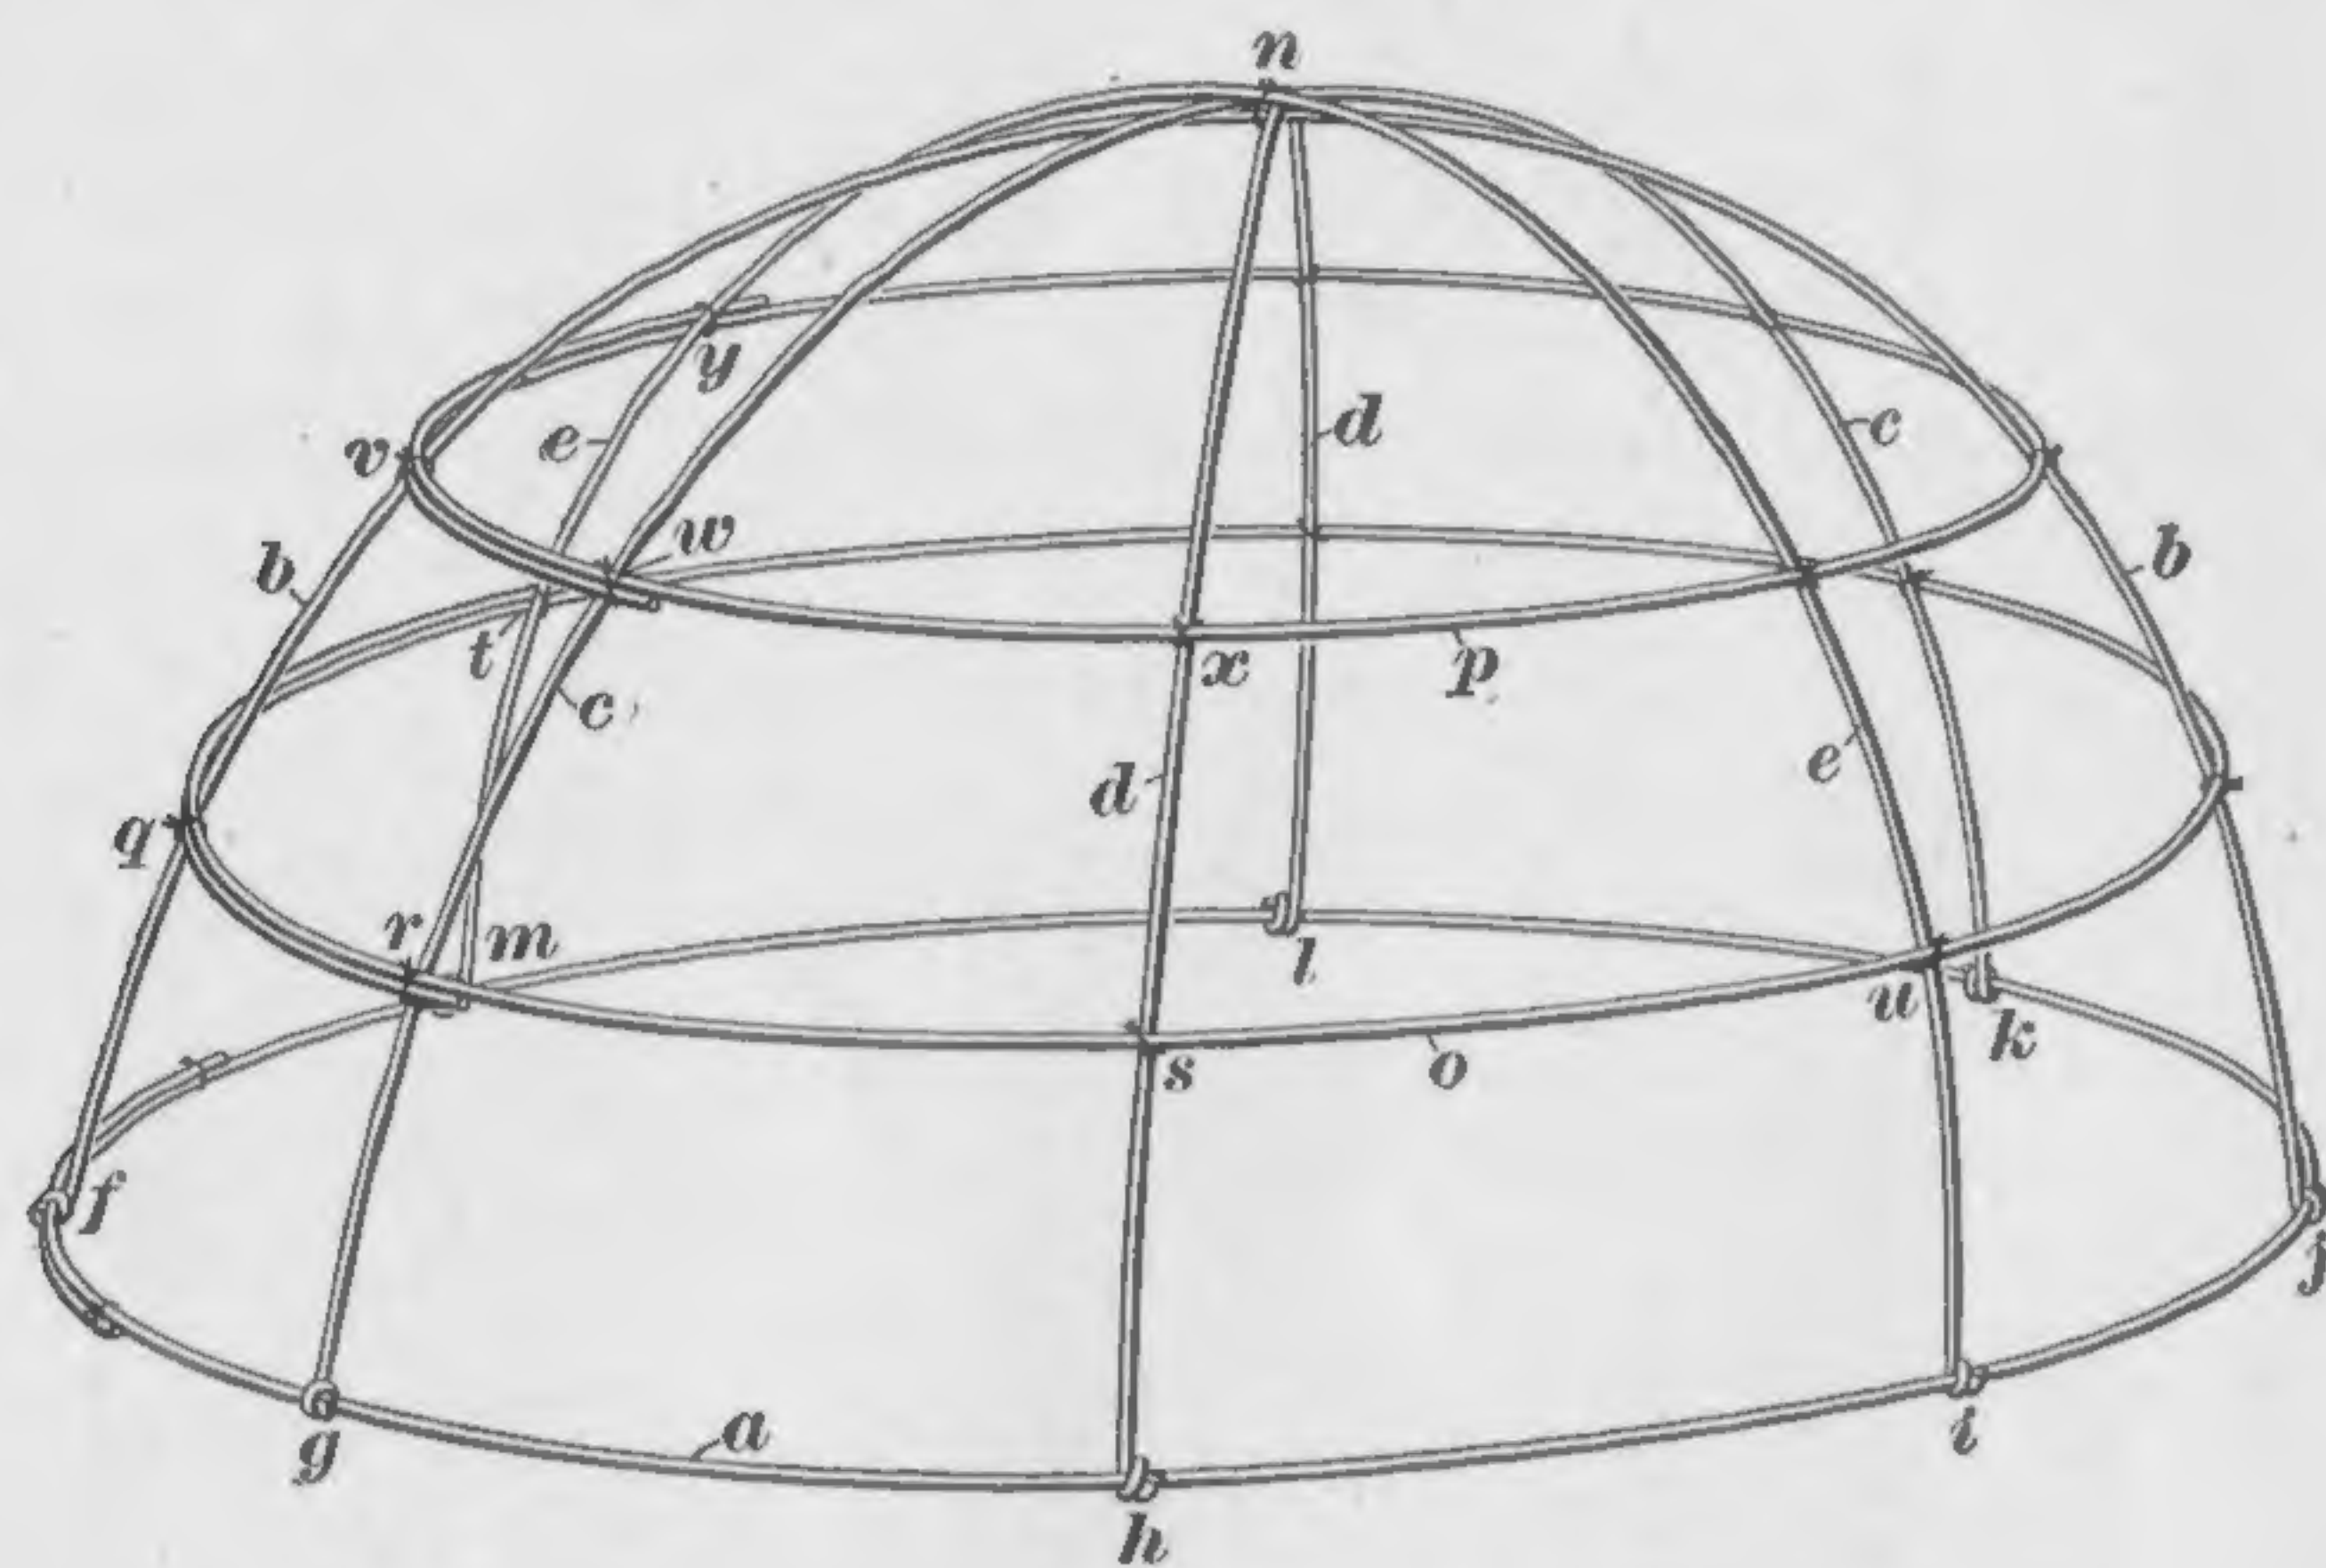
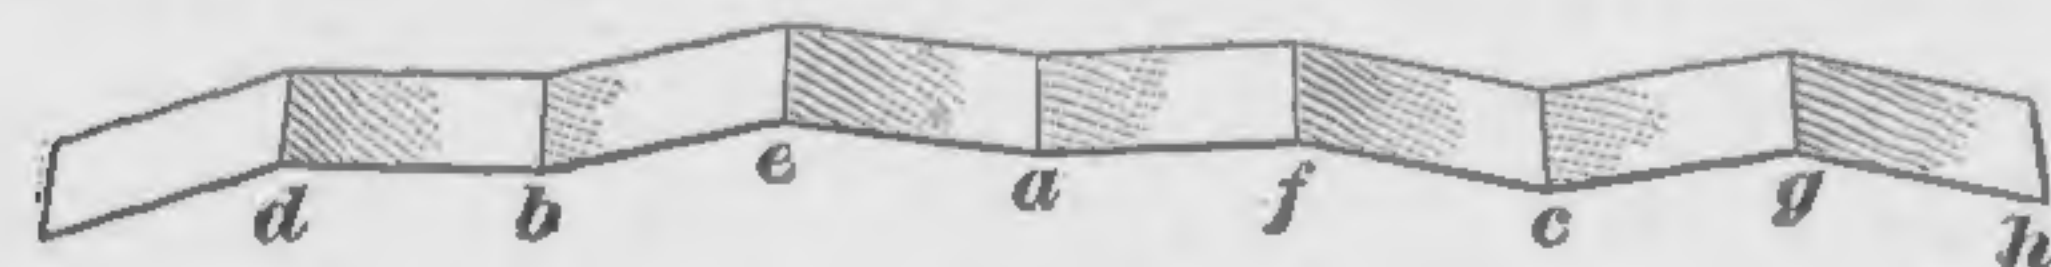
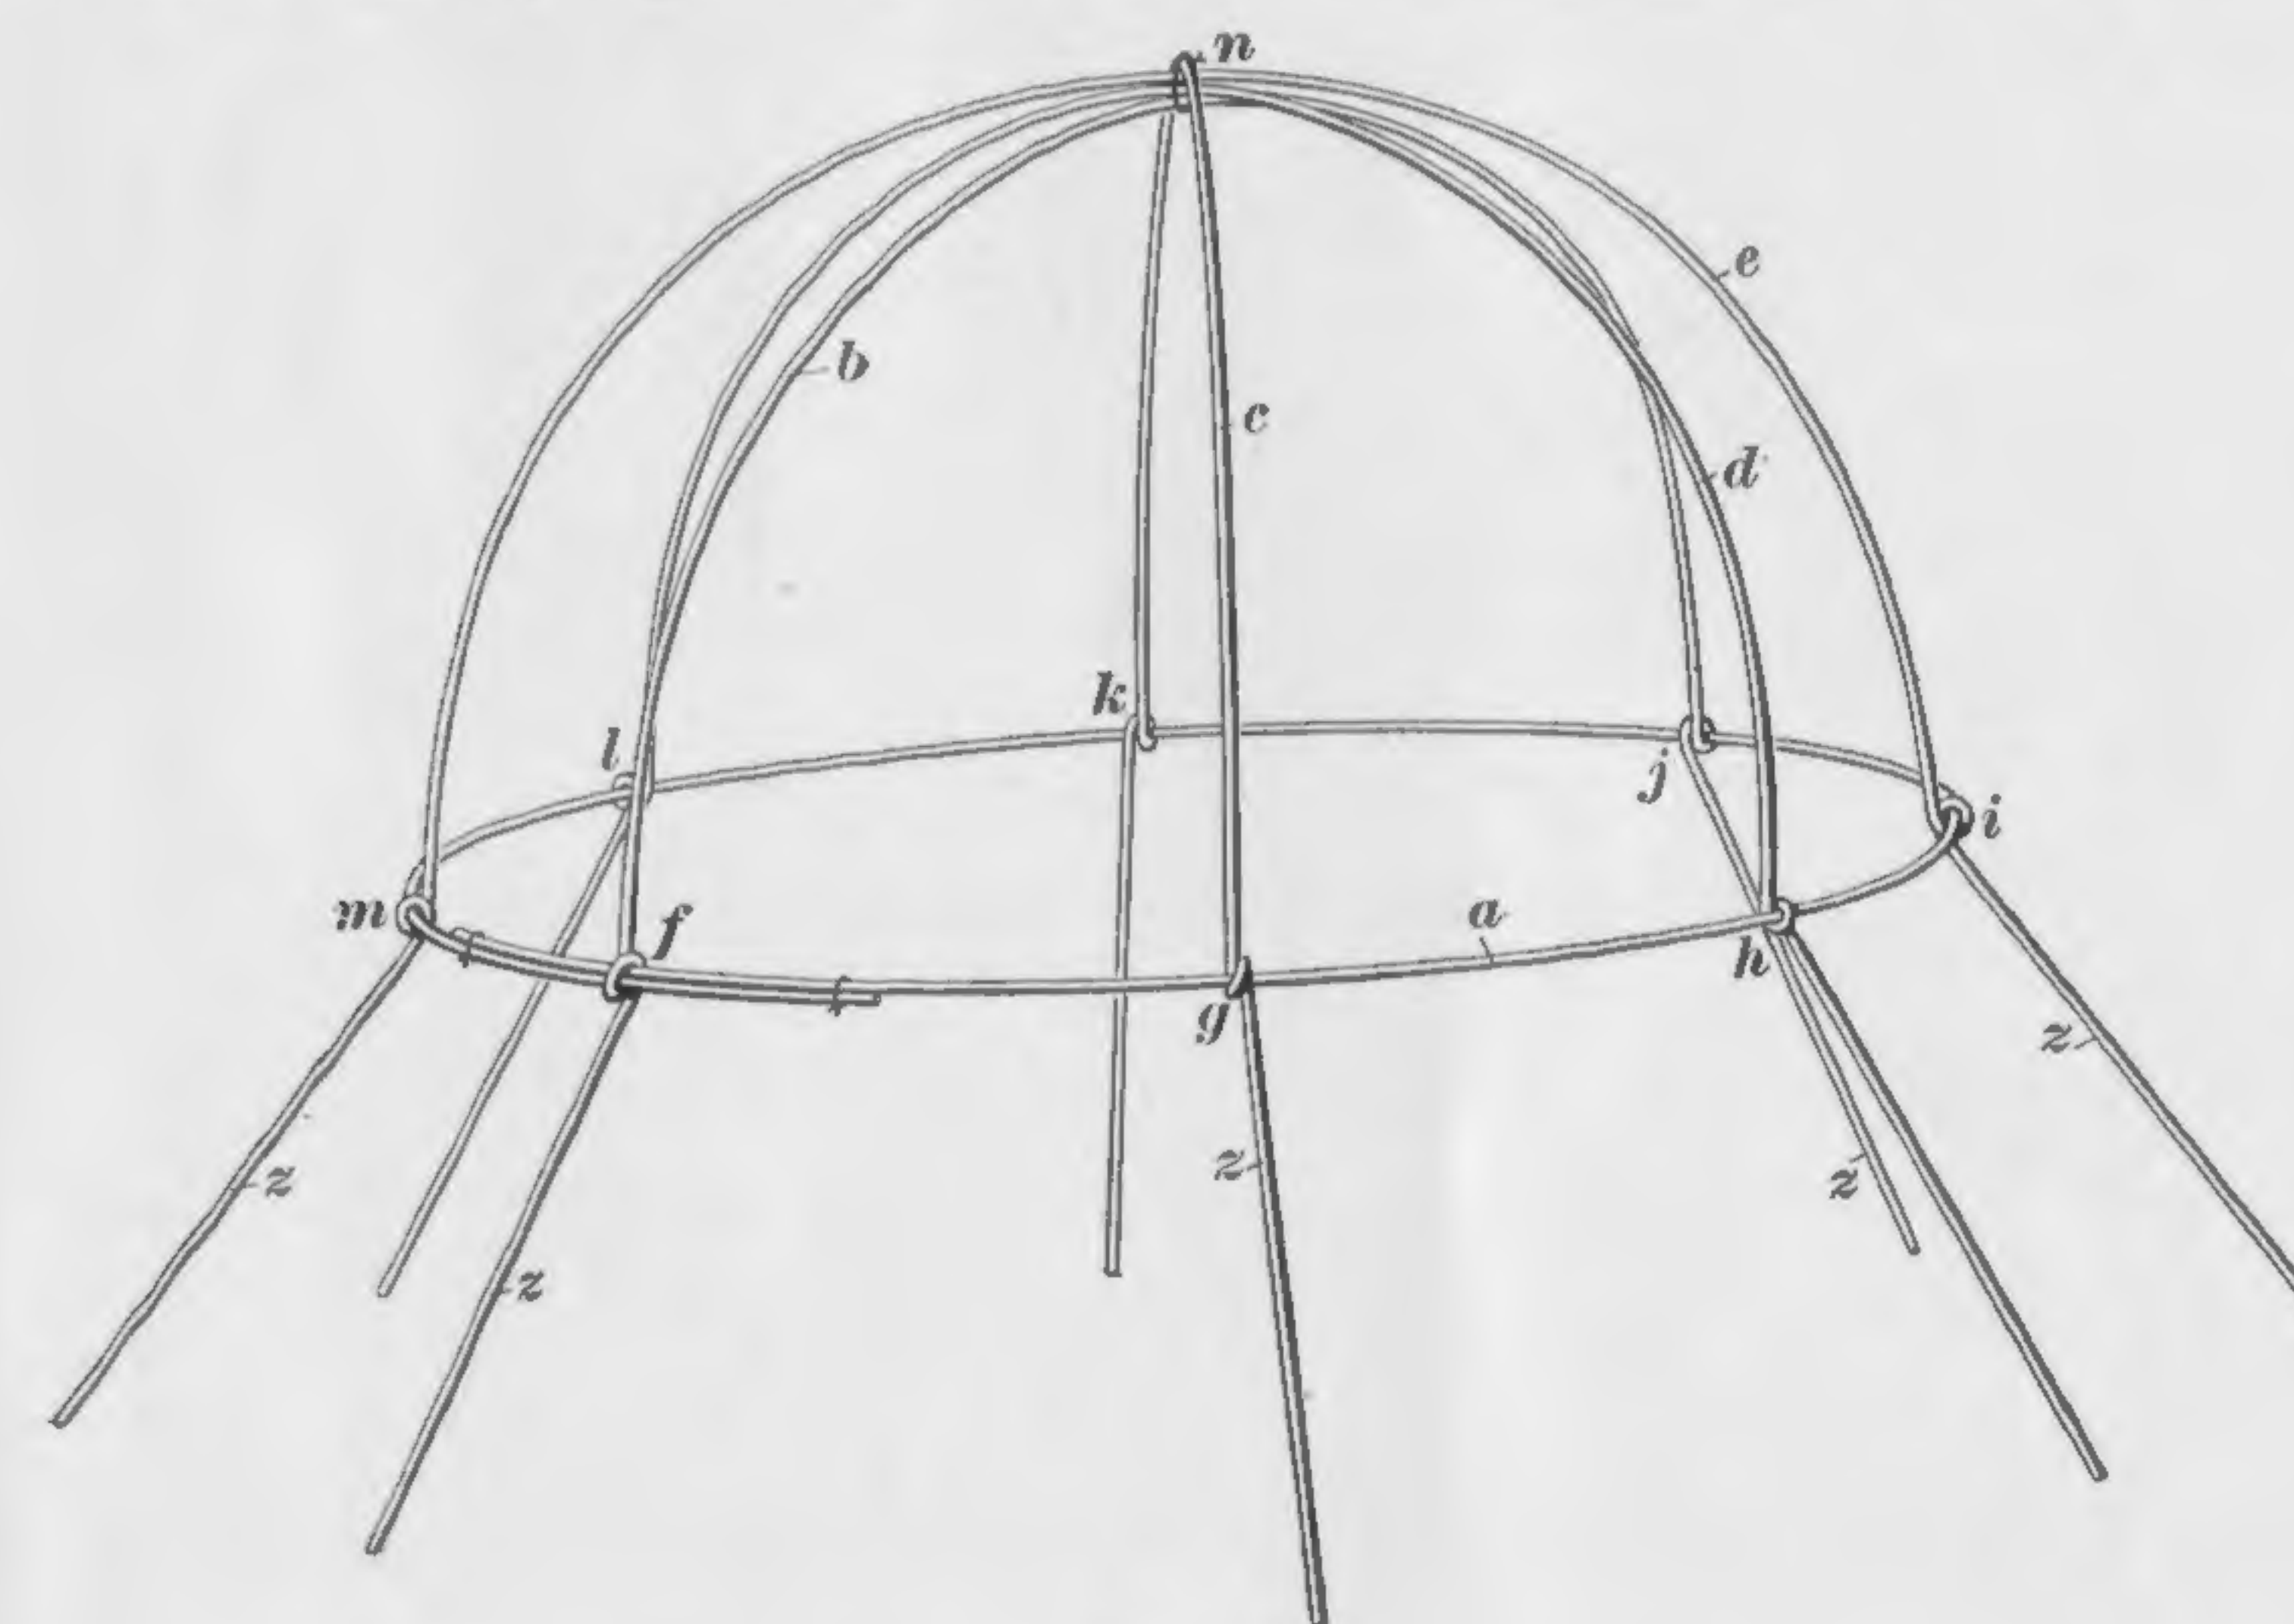
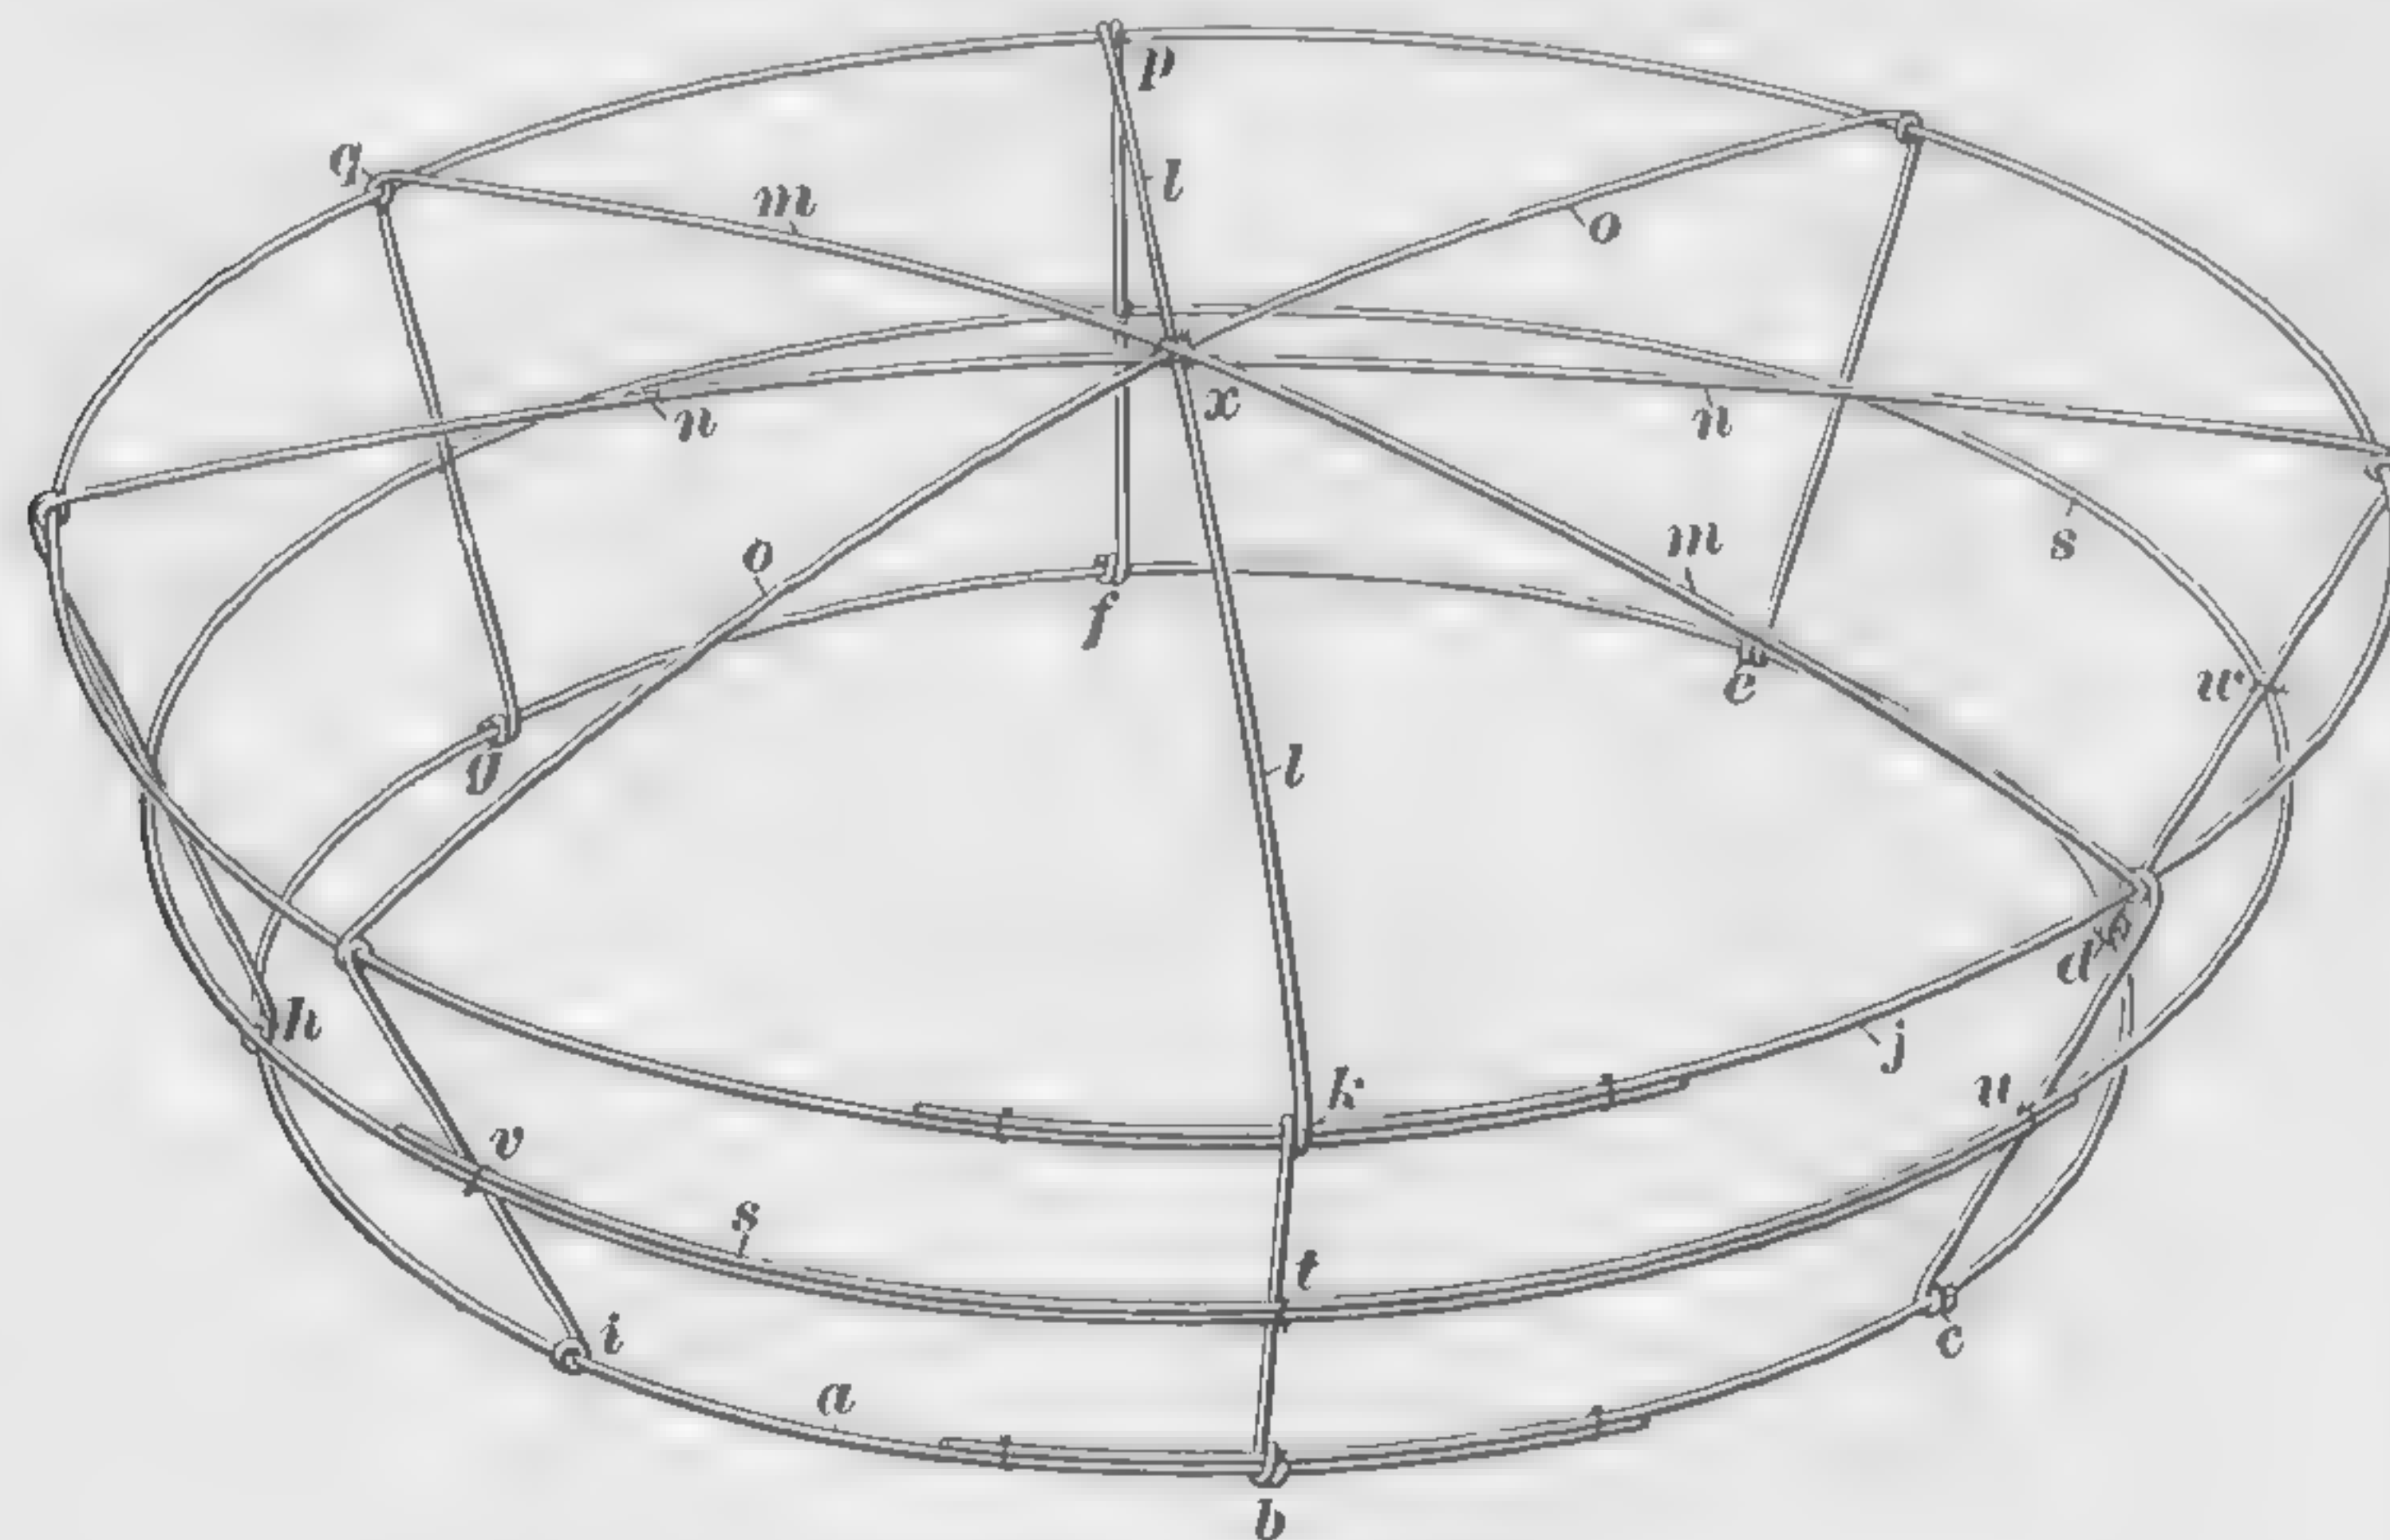

FIG. 10
FIG. 11
FIG. 15
FIG. 19
shown completed in Fig. 10. Starting with the head-size wire *a*, made as already described, the next step is to bend and attach the four support wires *b*, *c*, *d*, and *e* that outline the dome. Before these wires can be attached, however, it is necessary to locate the points *f*, *g*,
17. To mark off these equal distances, take a narrow strip of paper, and holding it against the head-size wire, run it around and tear it off so that its length is exactly equal to the head-size. Now fold this strip in the middle, then fold it a second time, and finally a third time. Straighten it out, and it will appear as in Fig. 11, with seven creases that divide it into eight equal parts. The first fold makes the crease *a*, and divides the strip into two equal parts; the second fold gives the creases *b* and *c* and divides it into quarters;
18. The starting point from which to lay off the equal divisions on the head-size wire is the point *f*, Fig. 10, which is the middle of the
overlapped ends. This point is the middle of the back of the hat. Using the gauge *gh*, Fig. 11, lay one end of it at the point *f*, Fig. 10, and stretch it along the wire *a*, and even with its other end make a pencil mark, which will be the point *g*; from *g*, using the same gauge, mark off another division, thus locating the point *h*; and continue in the same way around the wire *a*. The point *j*, directly opposite *f*, will then be the front of the hat.
19. The next thing to do is to attach the wires *b*, *c*, *d*, and *e*, Fig. 10. These wires are all of the same length and have the same curvature. The height of the crown depends on the length of the wire used; the longer the wire, the higher will be the crown. But the height of crown may be varied according to the wearer. The
support wire is 12 in., measured from one side of the crown to the other over the top *n*, Fig. 10. If each wire is given an extra 2 in. for
of the hat. The dome will then appear as shown in the illustration, with the front-to-back and the side-to-side wires in place. Now take the remaining two support wires and fasten them in the same way from *g* to *k*, Fig. 10, and from *i* to *m*. When this has been done, the dome will appear as shown in Fig. 15. A piece of tie wire should be put around the crossed wires at the top *n* of the dome and twisted tight with the pliers, so as to hold the support wires firmly. The point *n* must be exactly at the middle of each of the support wires.
21. To brace the frame and make it sufficiently rigid, the wires *o* and *p*, Fig. 10, must be put on and tied fast. The wire *o* is put around the dome exactly $1\frac{1}{2}$ in. above the head-size wire *a*. Cut a strip of
22. When the wires *o* and *p*, Fig. 10, have been tied to the support wires, the frame of the dome crown is completed; however, the ends *z*, Fig. 15, of the support wires still project, as shown. Each of these ends should now be bent around until it stands up beside its corresponding support wire, after which it should be cut off with the pliers
close to the head-size wire *a*. When this has been done, the frame will appear as shown in Fig. 10. Now it is necessary to go over the entire frame and tighten all the twists and tie wires. First press all the twists *f*, *g*, *h*, etc., between the jaws of the pliers in the manner indicated in Fig. 16. This not only turns the cut ends in but also flattens the loops against the head-size wire and prevents the ends of the support wires from moving sidewise. Finally, with the points of the jaws, grip each tie wire and twist it tight. The frame will then be bound together firmly and will be as rigid as it can be made. Absolute accuracy in spacing the wires is not necessary, because the
frame will be completely covered and hidden when the hat is finished. On the other hand, the beginner should not allow herself to fall into the habit of doing slipshod, inaccurate work. Less than 5 yd. of brace wire is needed for making the frame shown in Fig. 10.
side. The sides of the crown are straight; therefore, the top brace wire *b* is of the same size and shape as the head-size wire *a*. Midway between them is a brace wire *c*, of the same size and shape. Hence, using the head-size wire *a* as a pattern, cut two more wires of the same length, bind them with tie wires and bend them to the same shape as the head-size wire *a*, that is, to an oval $8\frac{1}{2}$ in. long by 7 in. wide. Four support wires are used, spaced equally around the frame; therefore, by means of a strip of paper folded into eighths and used as a gauge, as explained in connection with Fig. 11, the top brace wire *b*, Fig. 17, and the head-size wire *a* are marked off into eight equal divisions, beginning at the points *g* and *h*, which are the middle points of the overlapping ends and are at the back of the crown.
28. A completed bell crown is shown in Fig. 19, and the method of making it is very much like that used in making the box crown just described. Measure off the correct head-size wire a and tie the overlapping ends as shown. Make a paper gauge as explained in connection with Fig. 11, and mark off the points from b to i , Fig. 19, around the head-size wire, dividing it into eight equal parts. Next make the top brace wire j . This is a circle, and its size depends on the amount of flare to be given to the crown; the more pronounced the flare, the larger must be the circle of the top brace wire. In
this particular case, a 24-in. head-size wire and a 30-in. top brace wire are used, and the height of the crown, measured from b to k , is $2\frac{1}{2}$ in. Take a piece of brace wire 33 in. long, bend it to a circle with the ends overlapping 3 in., and tie them together, thus making the top brace wire j 30 in. around. Now take a strip of paper of the same length, fold it as in Fig. 11, and mark off the top brace wire j , Fig. 19, into eight equal parts, beginning at k , the middle of the overlapping ends.
29. The support wires l , m , n , and o , Fig. 19, are all of the same length. The length $k p$ is $9\frac{1}{2}$ in., $f p$ and $b k$ each measure $2\frac{1}{2}$ in., and 2 in. must be added at each end to allow the wire to be bent around the head-size wire easily at b and f . Therefore, the total
from the points k , p , q , etc., all around, and turn up the wires, as indicated by the dotted line at r , thus making the distance $q r$, and the corresponding distance on each of the other wires, exactly $2\frac{1}{2}$ in. Then take the head-size wire already made, and set it into the bends made in these projecting ends, taking care to have the overlap in the head-size wire come directly under the overlap in the top brace wire as shown in Fig. 19. Twist the ends of the support wires around the head-size wire, as shown, at the equally spaced points b , c , d , etc., and cut them off close. The crown is now completed except for the
31. Tie one end of a piece of brace wire loosely at *v*, Fig. 19, carry it around to the mark *w* and tie it to the support wire *n*, and continue thus around to *v*, tying it at each point where it crosses the support wires. Loosen the tie wire first put on at *v*, and tie again at this point, over *both* wires. Tie both wires to the wire *l* at *t* and to the wire *m* at *u*, and cut the brace wire off $\frac{1}{4}$ in. beyond *u*. At the middle point *x*, where the four support wires cross, tie them together firmly with a piece of tie wire. Finally, go over all the twists at *b*, *c*, *d*, etc., around the head-size wire and press them with the pliers, and tighten all the tie wires by twisting. The frame will then be finished. Five yards of brace wire will be ample for this crown.